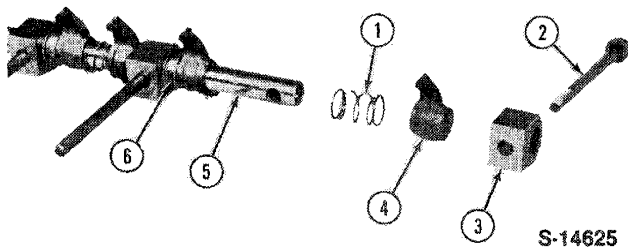

**Figure 11**
5. Remove the cylinder head bolts which pass through the rocker shaft supports and slide the rocker shaft components from the shaft, Figure 11.